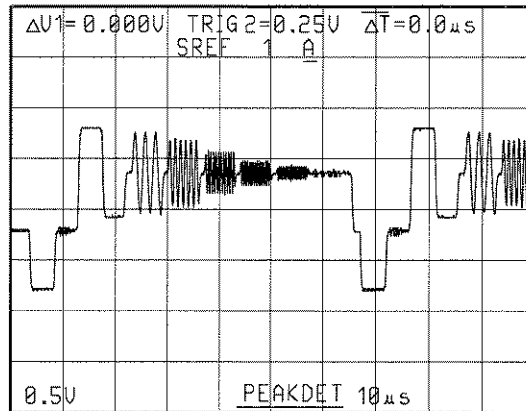

Figure 3-27: Multi-burst Signal Triggered in TV Line
- Step 6:** Adjust the **A TRIGGER LEVEL** stabilize the display (Figure 3-27).